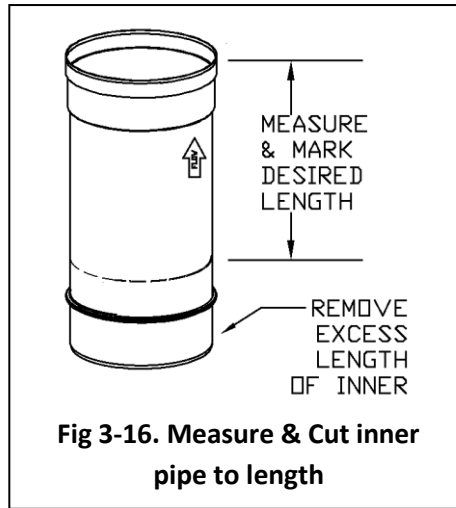

Fig 3-16. Measure & Cut inner pipe to length
3. On the inner pipe, Measure DOWN from the OUTLET end of the pipe, mark a line around the perimeter of the pipe at the desired location for the cut (See Fig 3-16).
All ports are continuously welded to the inner pipe. Gaskets or sealant used to connect other equipment and supporting of this equipment is by others. See Fig 3-16.